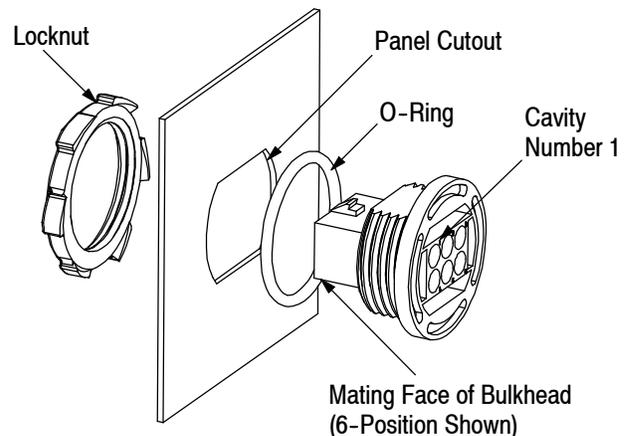

Figure 2
3.2. Installing Bulkhead into Panel (Refer to Figure 2)